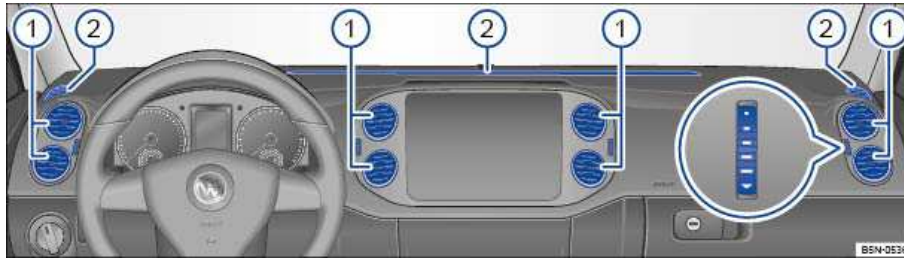

Fig. 160 In the instrument panel: Air vents.
To help ensure sufficient heating, cooling and ventilation in the passenger compartment, never close the air vents completely ⇒ fig. 160 (1).
- To open and close the air vents ⇒ fig. 160, turn the thumb wheel (close-up) in the desired direction. When the thumbwheel is turned all the way toward the 0, the air vent is closed.